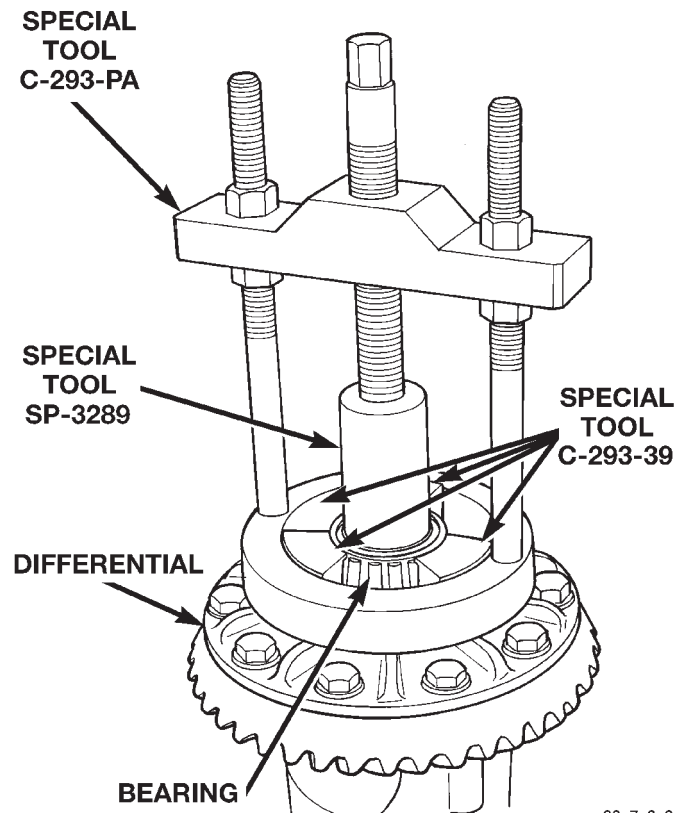

Fig. 22 Differential Bearing Removal
- (1) Remove differential from axle housing.
- (2) Remove the bearings from the differential case with Puller/Press C-293-PA, C-293-39 Blocks, and Plug SP-3289 (Fig. 22).